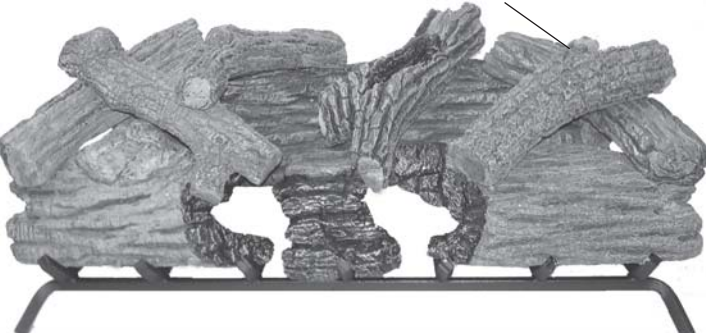

Figure 44 - Installing Top Right Log (#11)
11. Install top right log #11. See Figure 44.